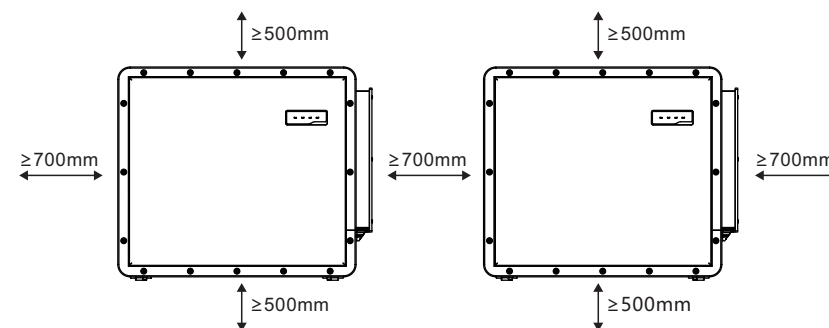

Figure 3.1 Distances required between inverters
- If multiple inverters are installed on site, a minimum clearance of 700mm should be kept between each inverter and all other mounted equipment. The bottom of the inverter should be at least 500mm above of the ground or floor (see Figure 3.1).